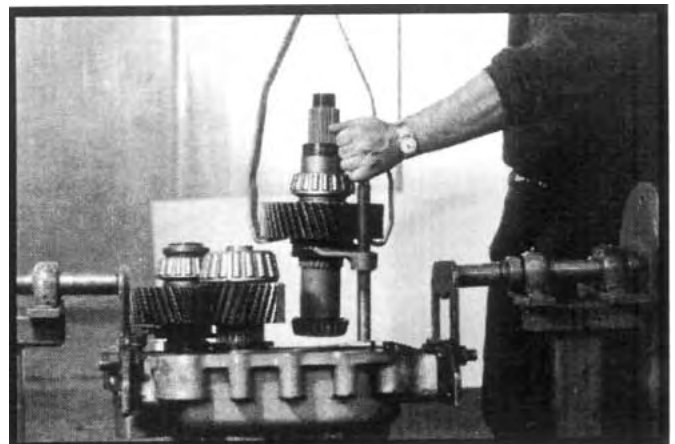

Figure 4.9
14. Lift the rear output shaft subassembly, together with its shifter shaft subassembly, from the housing. Do not force - it may be necessary to rock the shifter shaft from side to side to prevent binding. See Figure 4.9.